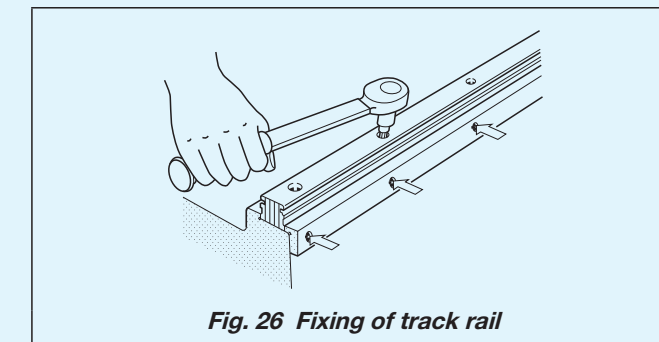

Fig. 26 Fixing of track rail
- Stick the track rail reference mounting surface of the Linear Way I to the reference mounting surface of the bed with pressure plate or pressure screws and tighten the track rail fixing bolt at the same position. Repeat this method from one end to fix the track rail in order. (See Fig. 26)